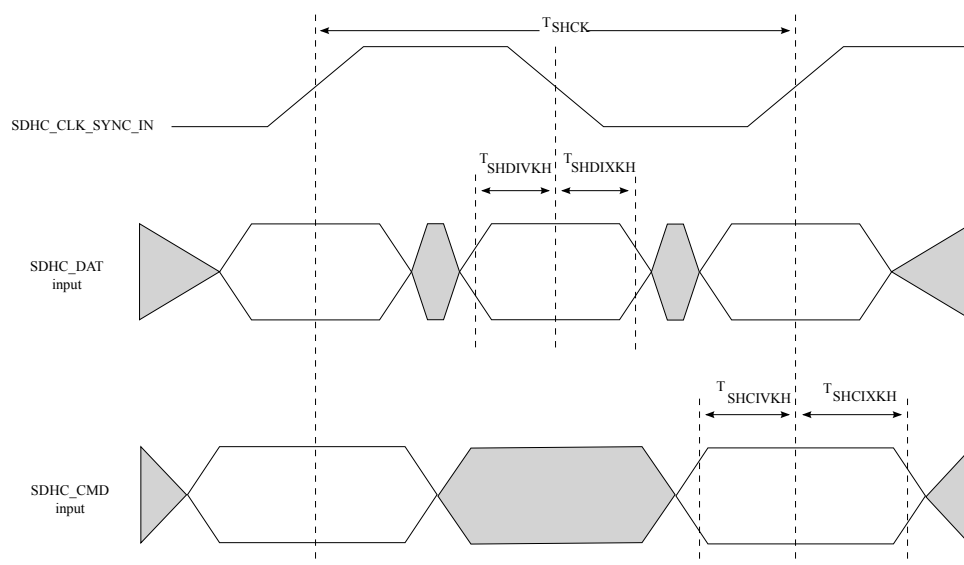
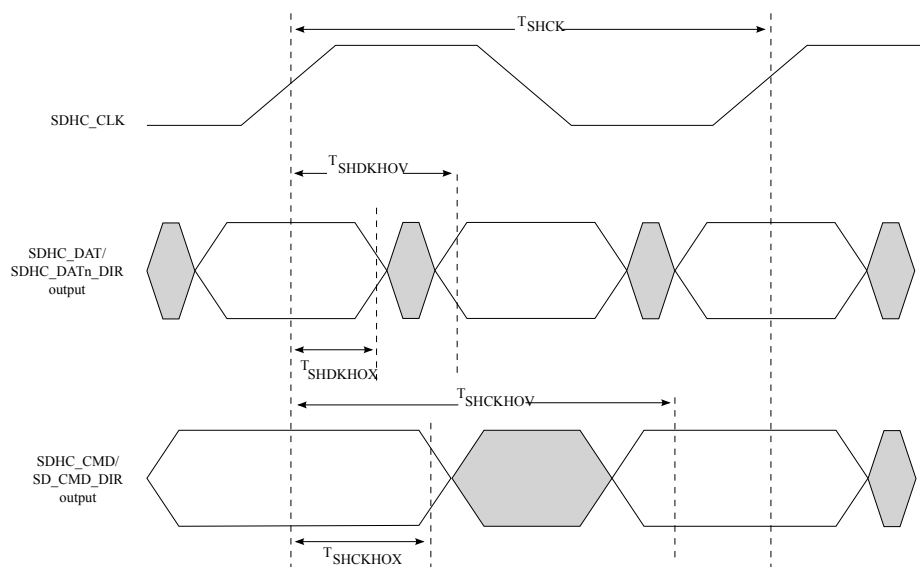

Figure 22. eSDHC DDR50/DDR mode input AC timing diagram
Figure 23. eSDHC DDR50/DDR mode output AC timing diagram
3. The symbols used for timing specifications herein follow the pattern of t_{(first two letters of functional block)(signal)(state) (reference)(state)} for inputs and t_{(first two letters of functional block)(reference)(state)(signal)(state)} for outputs. For example, t_{SHCKHOX} symbolizes eSDHC highspeed mode device timing (SH) clock reference (K) going to the high (H) state, with respect to the output (O) reaching the invalid state (X) or output hold time. Note that in general, the clock reference symbol is based on five letters representing the clock of a particular functional. For rise and fall times, the latter convention is used with the appropriate letter: R (rise) or F (fall).
4. See Figure 22.
5. See Figure 23.
1. $C_L = C_{BUS} + C_{HOST} + C_{CARD} \leq 20 \text{ pF}$ for MMC, $\leq 25 \text{ pF}$ for Input Data of DDR50, $\leq 30 \text{ pF}$ for Input CMD of DDR50. 2. The symbols used for timing specifications herein follow the pattern of t_{(first two letters of functional block)(signal)(state) (reference)(state)} for inputs and t_{(first two letters of functional block)(reference)(state)(signal)(state)} for outputs. For example, t_{SHCKHOX} symbolizes eSDHC highspeed mode device timing (SH) clock reference (K) going to the high (H) state, with respect to the output (O) reaching the invalid state (X) or output hold time. Note that in general, the clock reference symbol is based on five letters representing the clock of a particular functional. For rise and fall times, the latter convention is used with the appropriate letter: R (rise) or F (fall). 3. See Figure 22. 4. See Figure 23. 5. Board skew: -0.2 to 0.2 ns